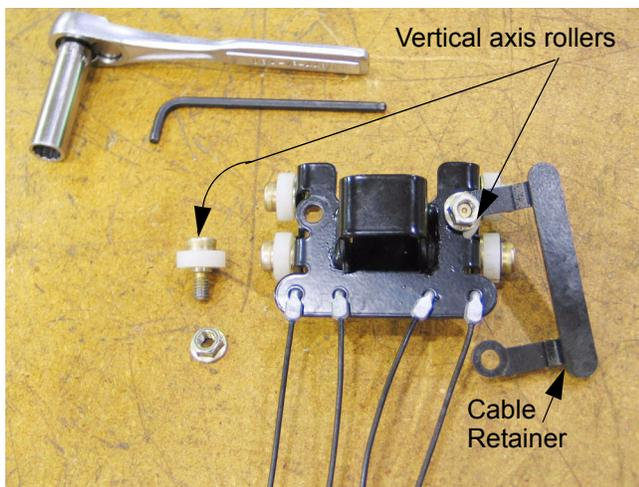

Figure 12.25
12.25. To separate Z-fittings on the end of the cables from the actuator mounting bracket, remove one of the vertical-axis rollers, and loosen the second one using a 1/2" wrench and a 3/16" allen wrench. This will allow the cable retainer to pivot, releasing the Z-fittings from the actuator mounting bracket. See Figure 12.25.